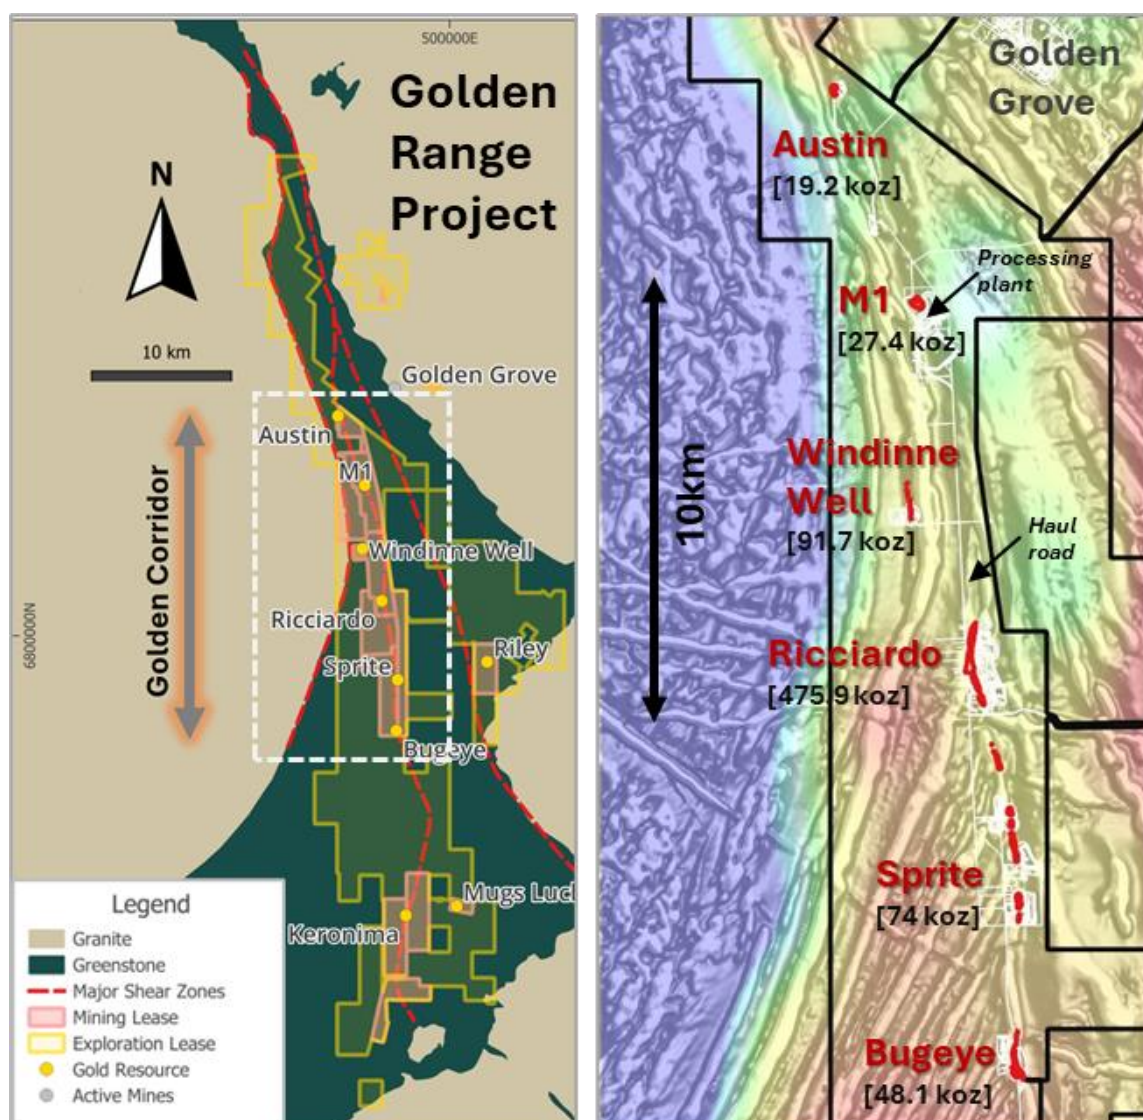

Figure 2: The Golden Corridor within the Golden Range Project. The image on the LEFT is gravity over shaded residual magnetic RTP.
The results for these two (2) holes again demonstrate wide infill of the broader Ricciardo deposit at depth, further validating the outstanding Mineral Resource Estimate (**MRE**) growth potential that exists at Ricciardo and along the broader 'Golden Corridor' trend (refer Figure 2).